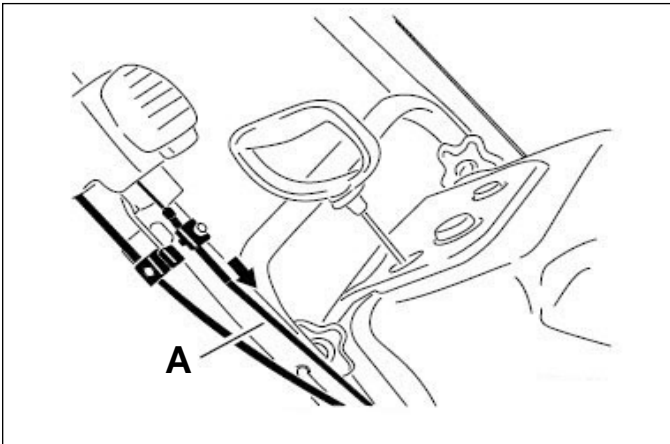

Fig. 028
5. Pull the upper cable casing forward until you remove the slack in the cable, and tighten the screw on the upper cable clamp securely (Fig. 028).